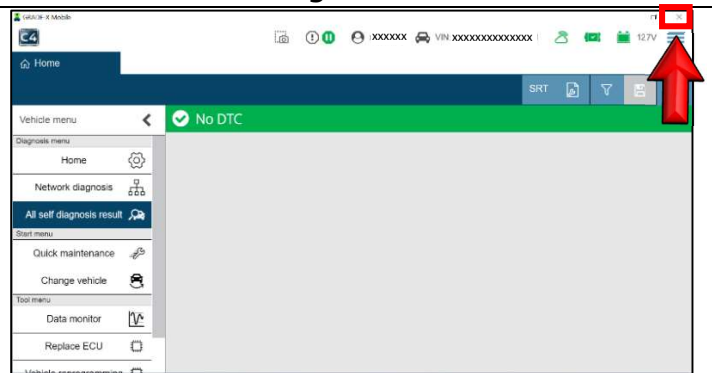

Figure 32
- Close C4 by selecting the "**X**" in the upper RH corner (Figure 32)